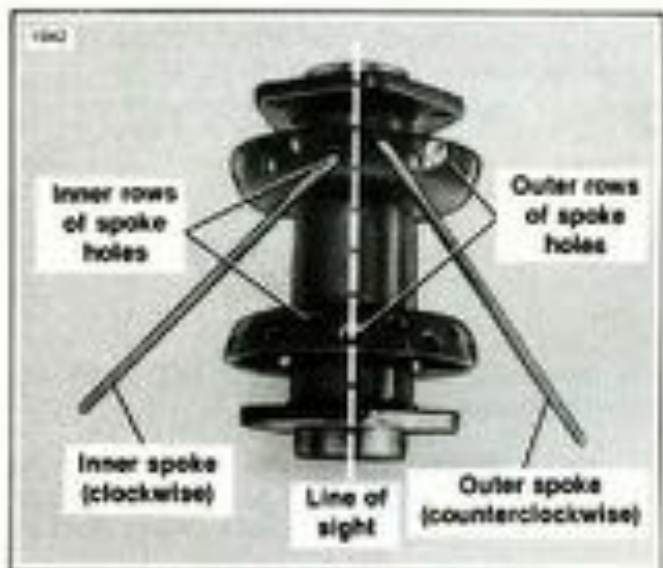

Figure 2-15. Late Style Hub
**Late Style Hub** — See Figure 2-15. Pick any outside spoke hole and sight straight across the hub. The first spoke hole to the right of the centerline is